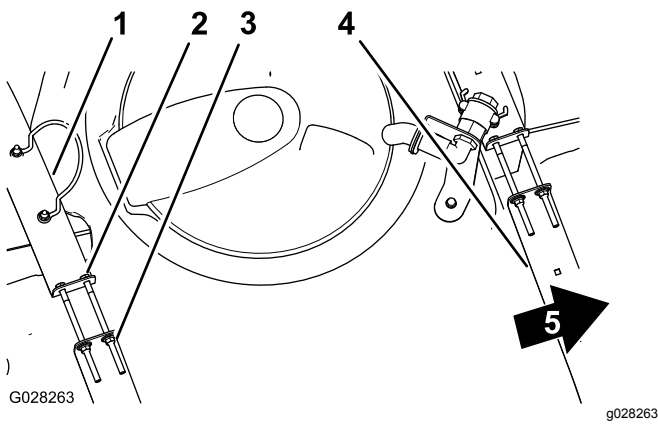

Figure 33
- Check to see if there is any movement between the tank straps and the tank (Figure 33).
- If the tank straps fit loose to the tank, tighten the flanged locknuts and bolts at the top of straps until the straps are flush with the surface of the tank (Figure 33).